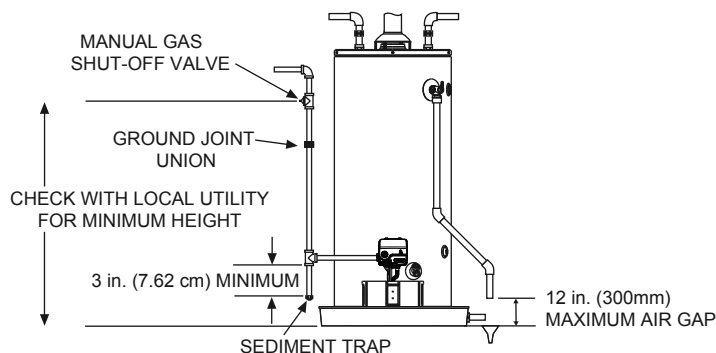

FIGURE 3.
**NOTE:** Use pipe joint compound or teflon tape marked as being resistant to the action of petroleum [Propane (L.P.)] gases (See Figure 3.)